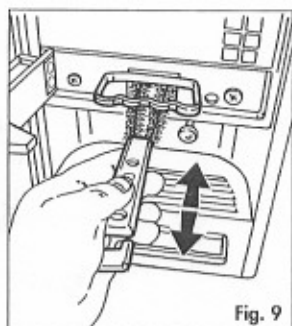

Fig. 9
- Dip the type C cleaning-rod in lukewarm water, then insert it and extract it from the sliding base at least ten times (fig. 9)